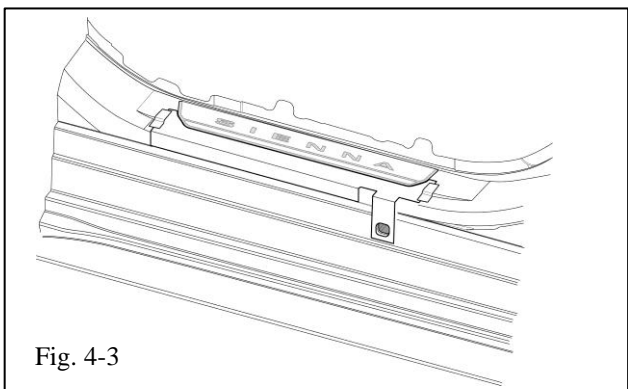

Fig. 4-3
- (d) Press the door sill onto the rocker and use a roller to attach it firmly (Fig. 4-3).